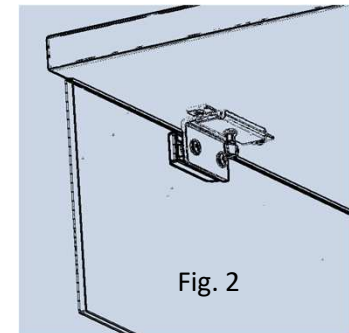

Fig. 2
4. Align the receiver brackets with the pilot holes and secure each bracket in place with (2) # 8x5/8" panhead screws provided.
5. Insert the modesty brackets into the under-top receiver brackets and tighten in place using thumb screws. (see Fig. 2)